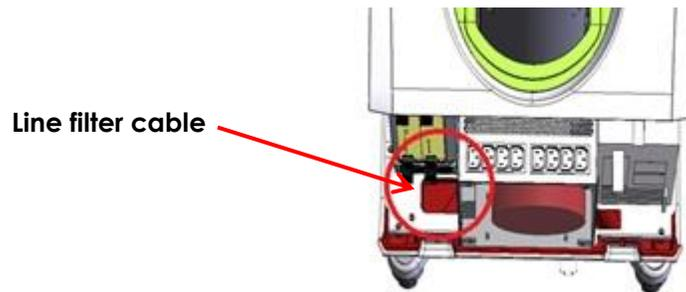

Figure 118: Line Filter Cable
13. Pull out the line filter cable from the opening as shown in Figure 118.
2. Connect the *line filter cable* at the opening shown in Figure 118.